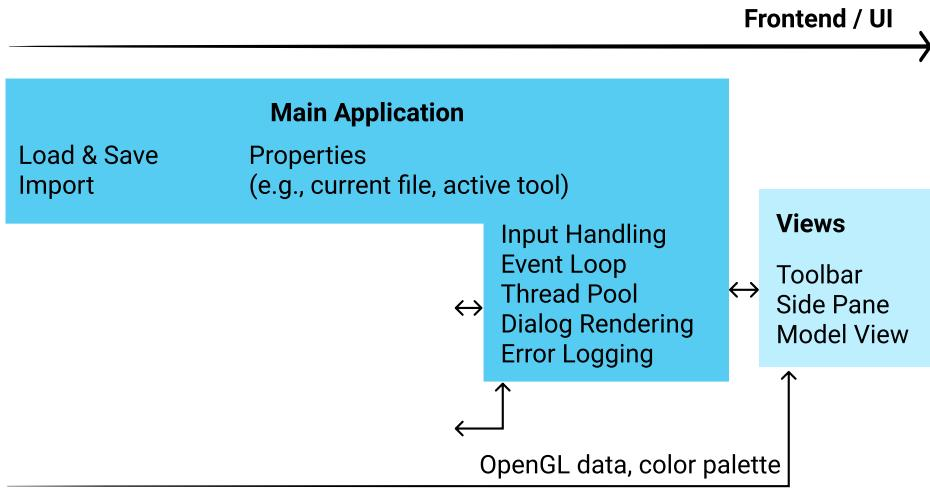

Figure 7.1: An overview of the Pepr3D UI architecture, based on Figure 3.1.
A *user interface* (UI) is the front-facing part of Pepr3D that the users interact with. It is responsible for managing windows, showing buttons, rendering the 3D model, handling mouse clicks, hotkeys, showing error dialogs, and much more. In case of Pepr3D, it should be an easy-to-use, intuitive, and fast abstraction of the complex 3D geometric algorithms at the backend, see Figure 7.1.